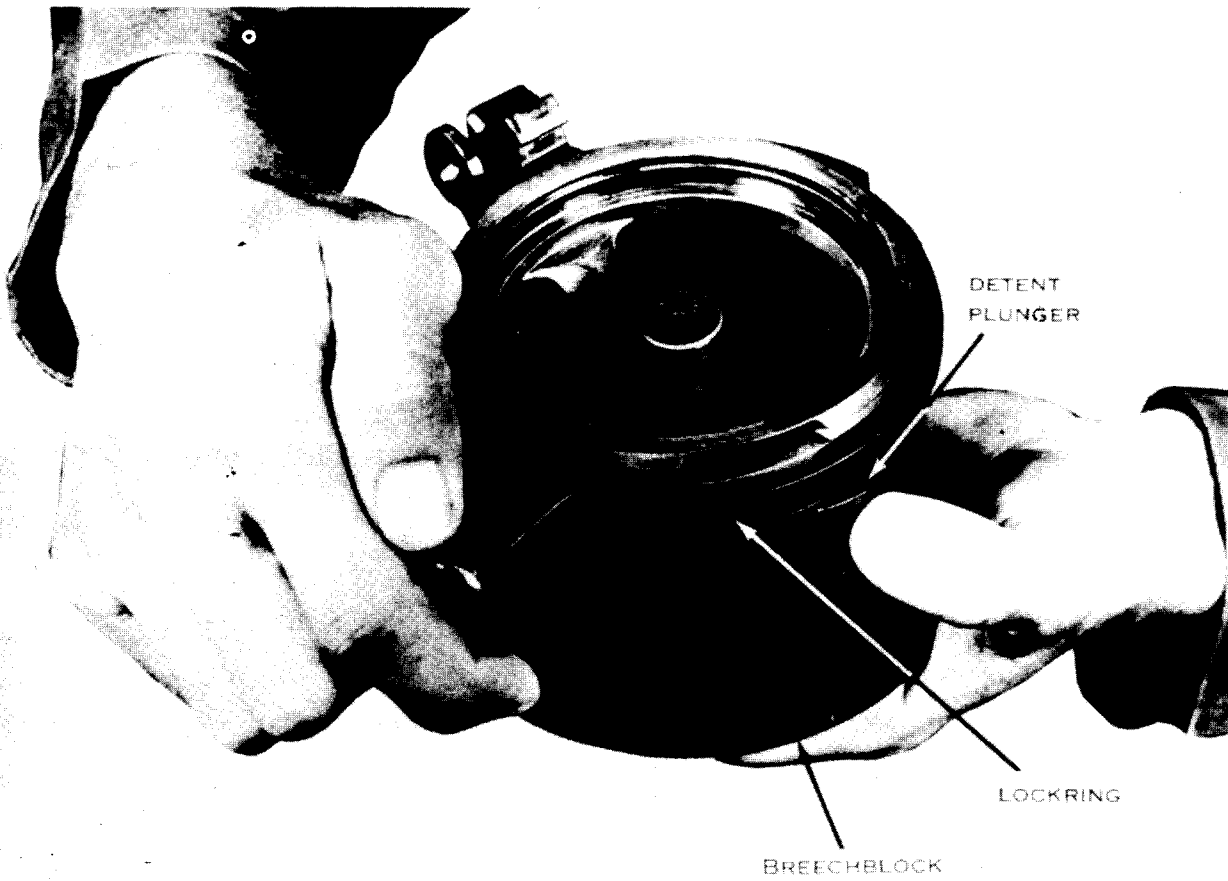

Figure 11. Removing the lockring.
- (g) To prevent the sear from dropping down and blocking the lockring, hold the breechblock with the hinge portion up; depress the detent plunger (10, fig. 6), rotate the lockring (8, fig. 6) counterclockwise, and remove (fig. 11).